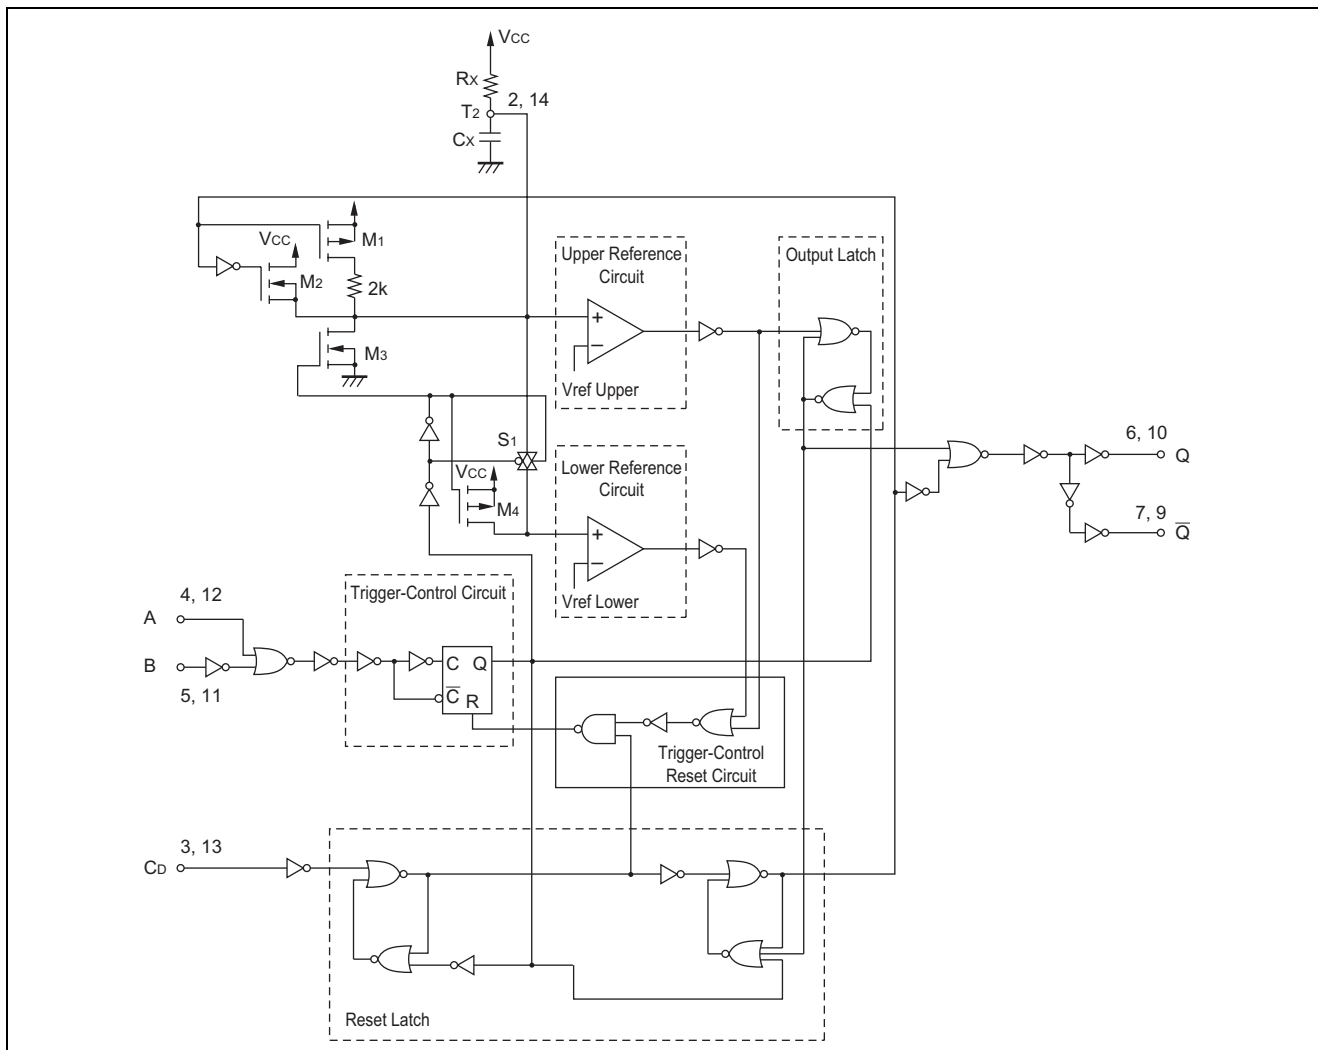
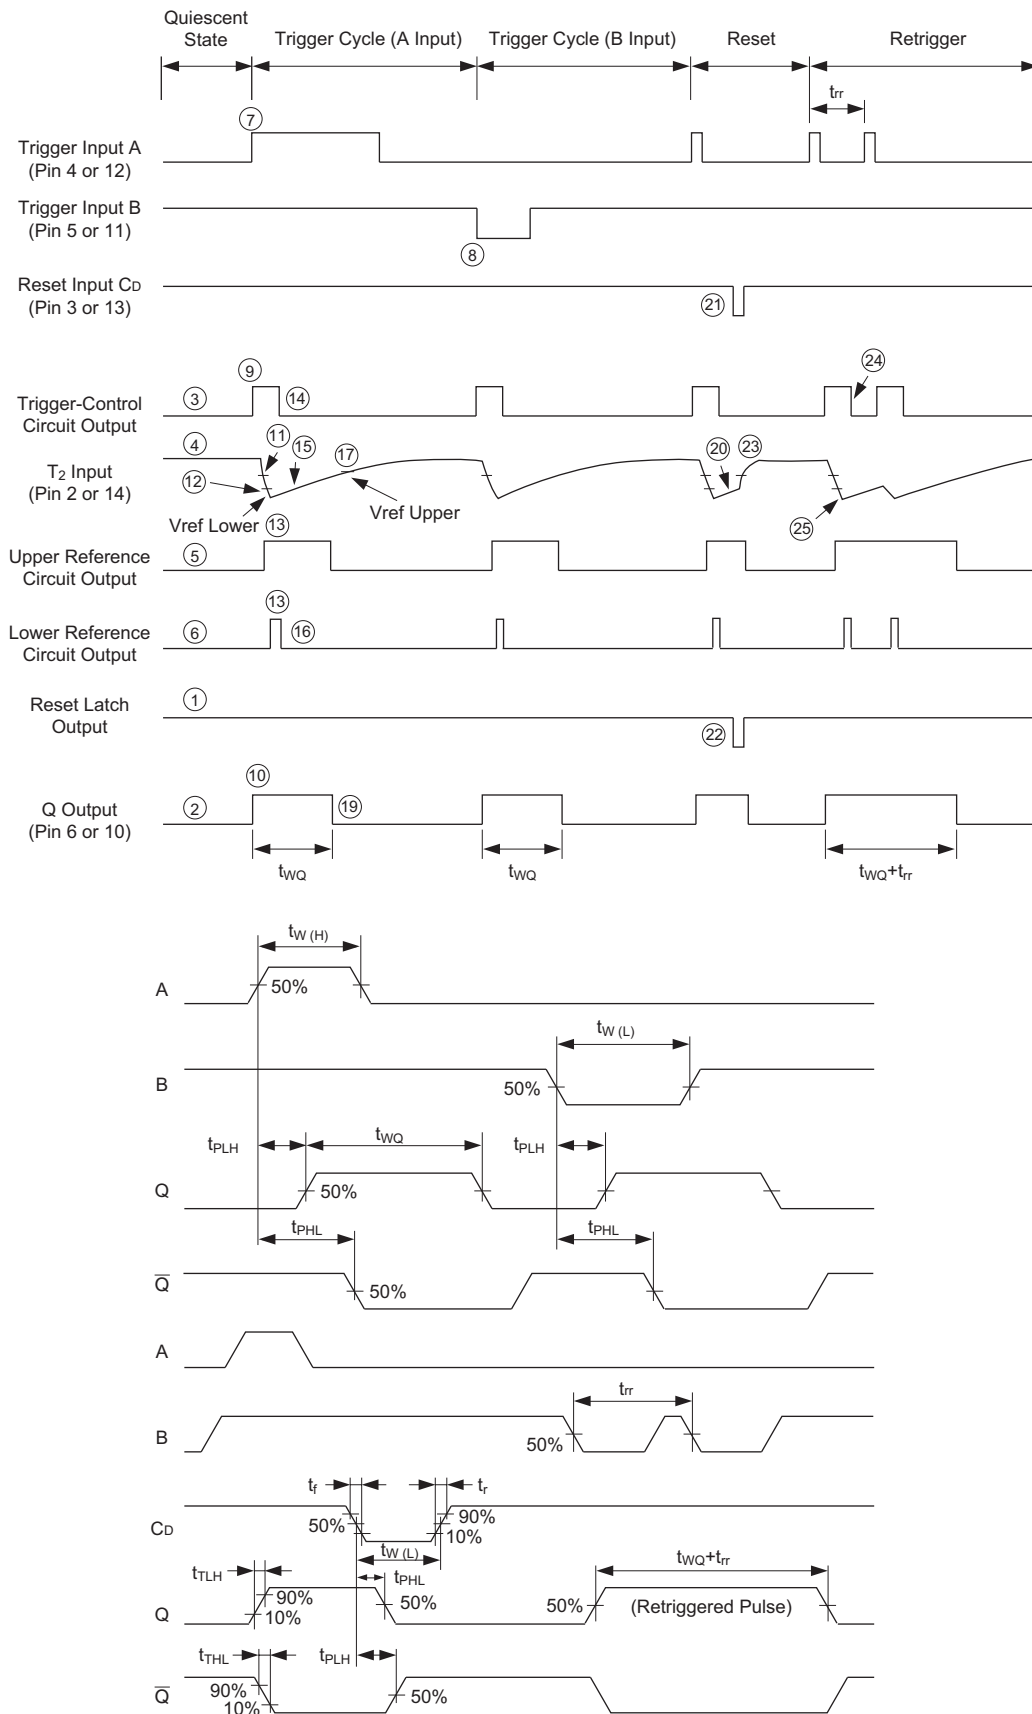
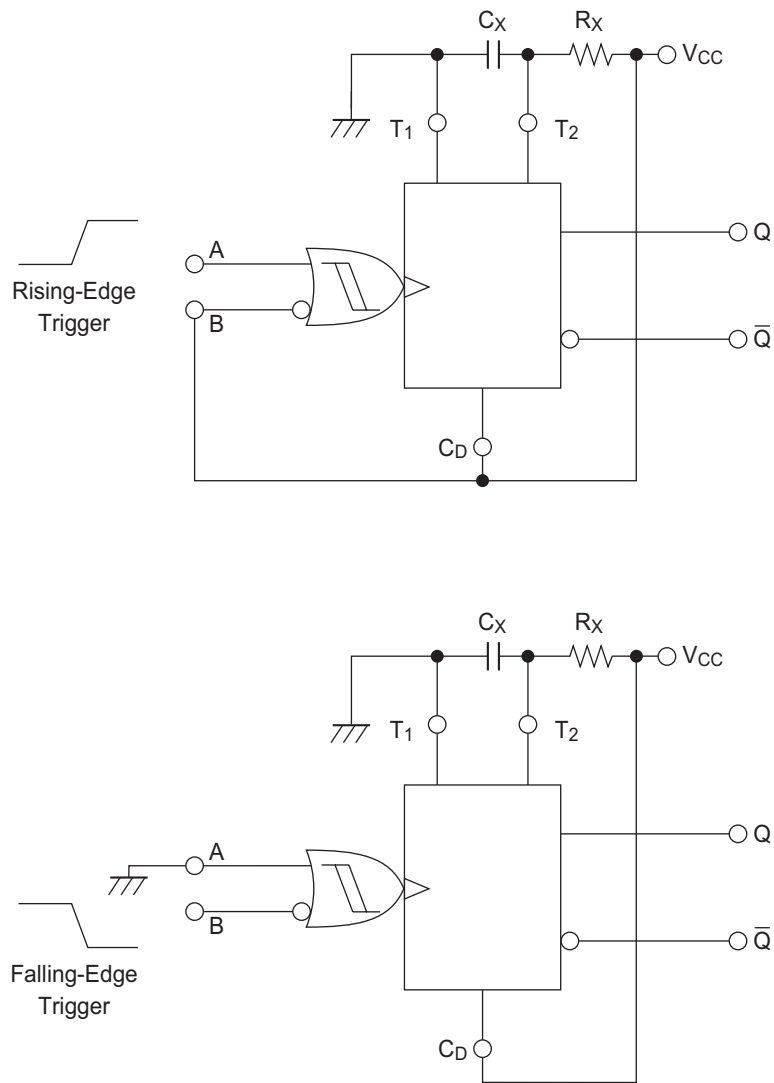

Figure 1. Function Diagram
Figure 2. Timing Diagram
Figure 3. Retriquerable Monostable Circuitry
Figure 3 shows the HC4538 configured in the retriggerable mode. Briefly, the device operates as follows (refer to figure 1): In the quiescent state, the external timing capacitor, C_X , is charged to V_{CC} . When a trigger occurs, the Q output goes high and C_X discharges quickly to the lower reference voltage ($V_{ref\ Lower} \approx 1/3 V_{CC}$). C_X then charges, through R_X , back up to the upper reference voltage ($V_{ref\ Upper} \approx 2/3 V_{CC}$), at which point the one-shot has timed out and the Q output goes low.
The following, more detailed description of the circuit operation refers to both the function diagram (figure 1) and the timing diagram (figure 2)
In the quiescent state, before an input trigger appears; the output latch is high and the reset latch is high (1 in figure 2). Thus the Q output (pin 6 or 10) of the monostable multivibrator is low (2 figure 2).
When used in the retriggerable mode (figure 3), the HC4538 may be retriggered during timing out of the output pulse at any time after the trigger-control circuit flip-flop has been reset (24). Because the trigger-control circuit flip-flop resets shortly after C_X has discharged to the reference voltage of the lower reference circuit (25), the minimum retrigger time, t_{tr} (Switching Waveform 1) is a function of internal propagation delays and the discharge time of C_X :